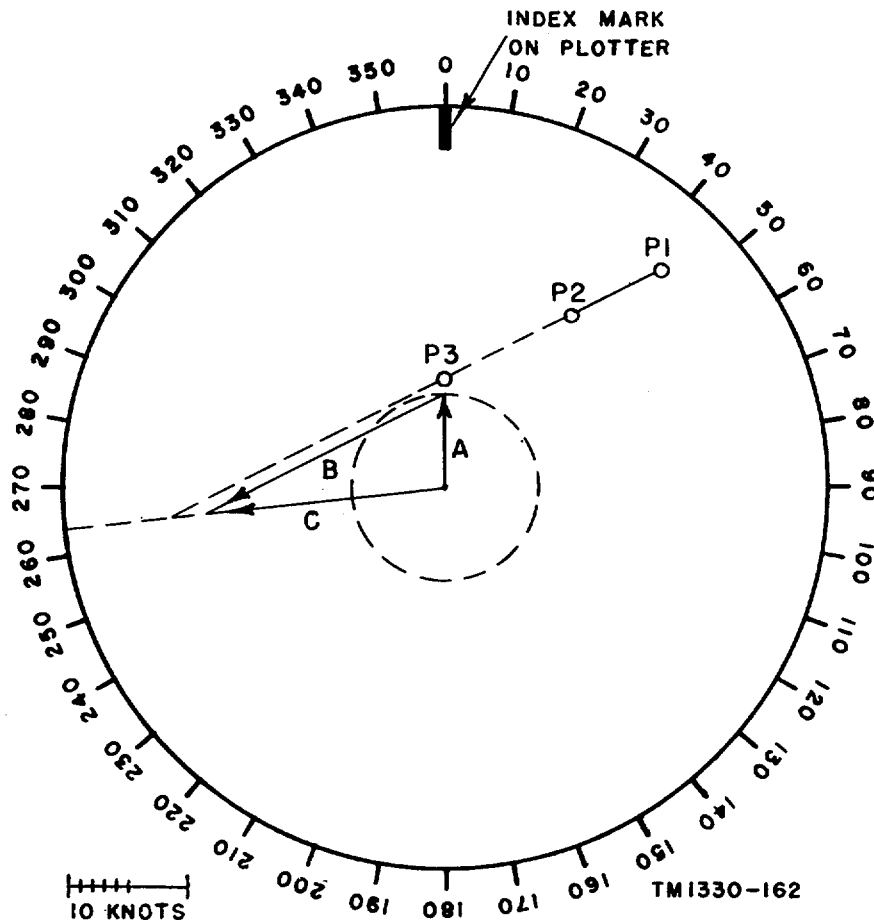

Figure 69. Radar plotting 2.
- (c) When more accurate information is desired, plotting may be done on a larger scale. Assume your own ship's speed is 8 knots and the radar range in use is 8 miles. A target off the starboard bow is plotted at 6.5 miles and 45° (point P_1 , fig. 69). Another plot is made 6 minutes later, and the target is at 4.5 miles and 37° (point P_2). To determine the target's course, speed, crossing point and time, and point of closest approach, proceed as follows: